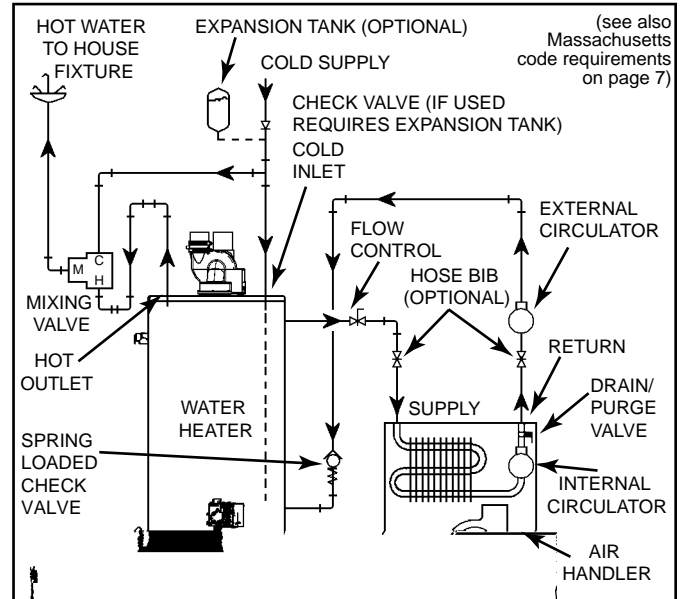
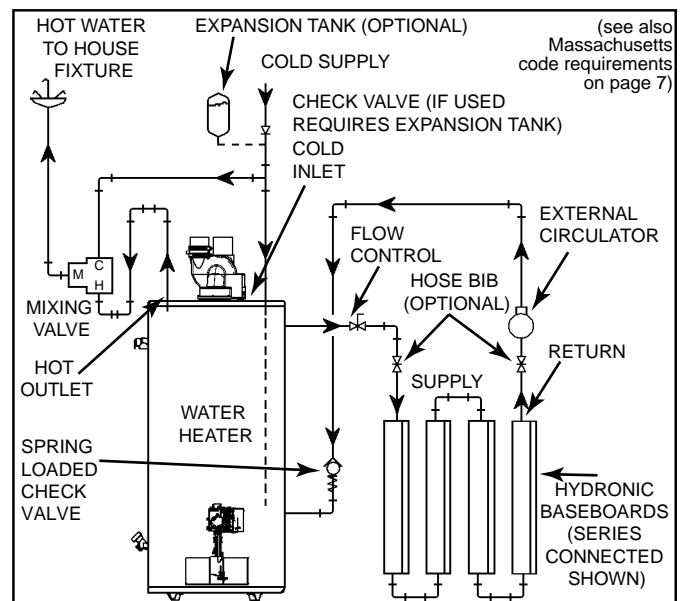

Figure 13.
Figure 14.
8. “Combo” Heating Systems require higher water temperatures than other applications. When the system is used to supply water for Combo Heating applications, a means, such as mixing valve, must be installed to temper the water in order to reduce scald hazard potential (see Figure 13 & Figure 14).
- A. A fan coil/air handler (Figure 13).
- B. A hydronic baseboard (finned tube) loop/In floor heating (Figure 14).